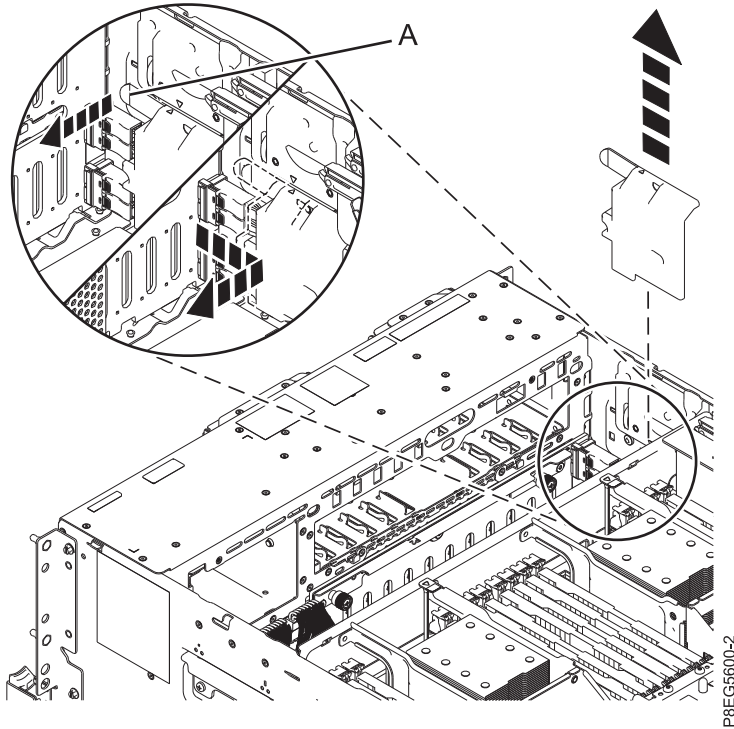

Figure 2. Removing the SAS cables cover
3. Remove the cover from the front SAS cable. Grasp the handle (**A**) and pull away from the side of the system, then slide the cover toward the rear to remove it as shown in Figure 2 on page 5.